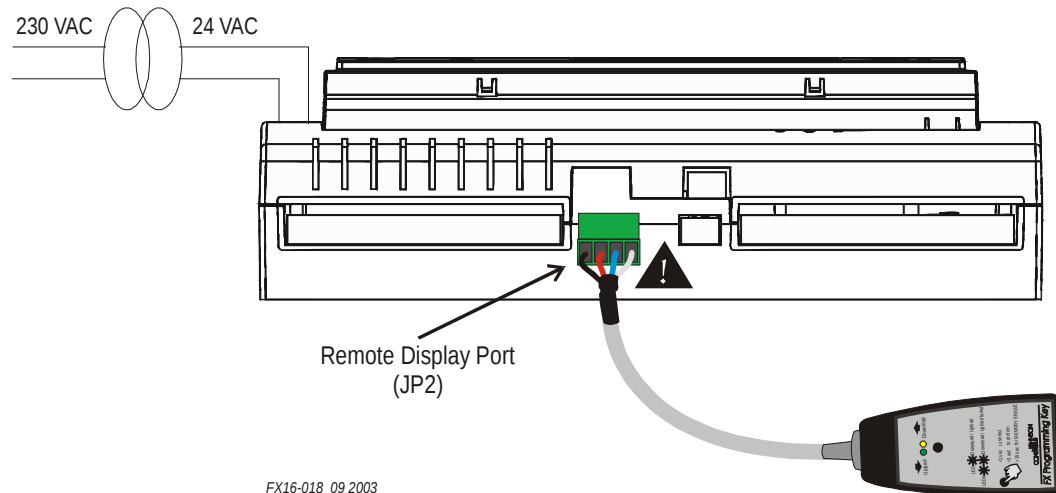

Figure 26: Programming Key Connection to FX15 Controller
3. Plug the Programming Key into the Display Port (JP2) (see Figure 26).